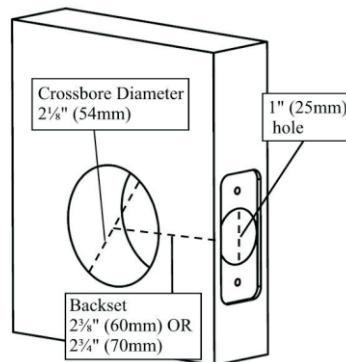

Fig. 2
### 2. Drill holes on door (see fig. 2).
1.2 Install the outside chassis unit (see fig. 2). Slide wire through the hole on the door. Slide square spindle and poles smoothly through the holes in the latch. Make sure to keep the outside chassis vertically aligned during installation. Check latch setting and door dimensions if there are any problems.